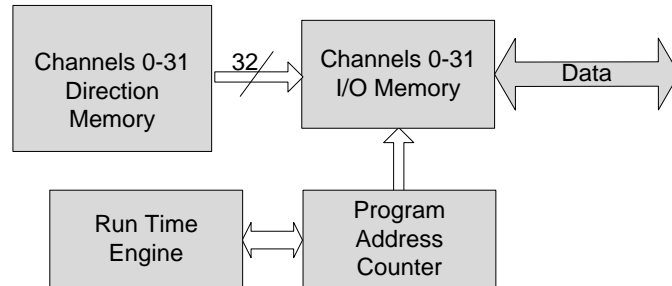

**Figure 4-4: Signal Timing Diagram**
- Strobe        The DIO captures input patterns from the I/O connector on the rising edge of Strobe (STB). When the Strobe source signal is internal, it has the same frequency as the Clock signal. The Strobe Clock can have a delay of 0-27 nSec (with increments of 250 pSec) relative to the Out clock source. The timing diagram in Figure 4-4 displays Out CLK and Strobe signals. The DIO board can be driven using either internal or external clock sources. In internal mode, Strobe occurs  $T_s$  nanoseconds before the next clock (CLK) signal (8 nSec default).  $T_s$  can be set from 0 – 24 nanoseconds before the Out CLK signal. In the external mode, Clock or Strobe signals are provided externally.
A timing diagram of the CLK and Strobe signals is shown in Figure 4-4.